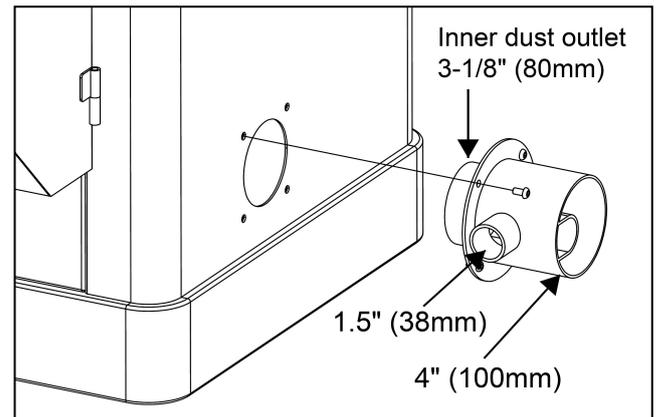

Fig.13
1. Installation of the Dust Outlet (Fig.13).
As shown in **Fig.13**, secure the dust outlet to the cabinet, and then connect the bellows to the dust outlet.